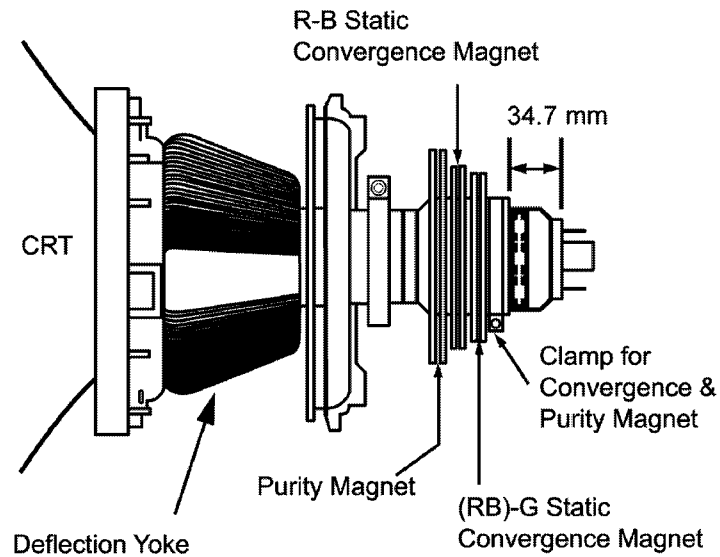

Fig. 10
7. Loosen the clamp screw for the Deflection Yoke A in Fig. 10 and move the Deflection Yoke as close to the purity magnet as possible.
7. Fix the Deflection Yoke by reinserting the DY wedges. Refer to Fig. 10.